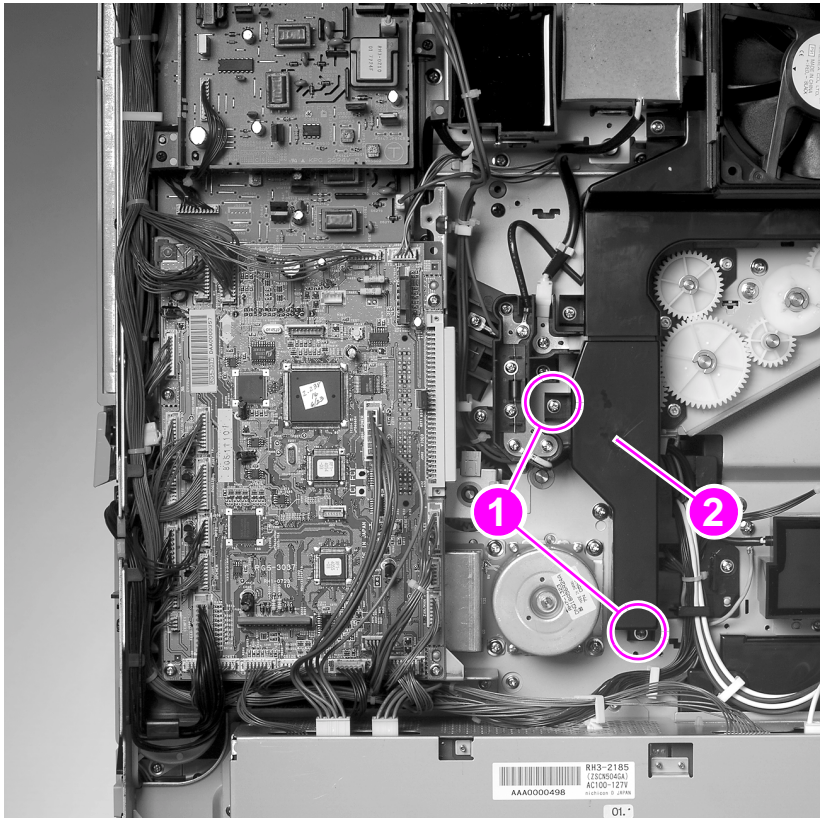

Figure 136. Lower air duct
- 6 Remove the lower air duct (see figure 136 on page 285).